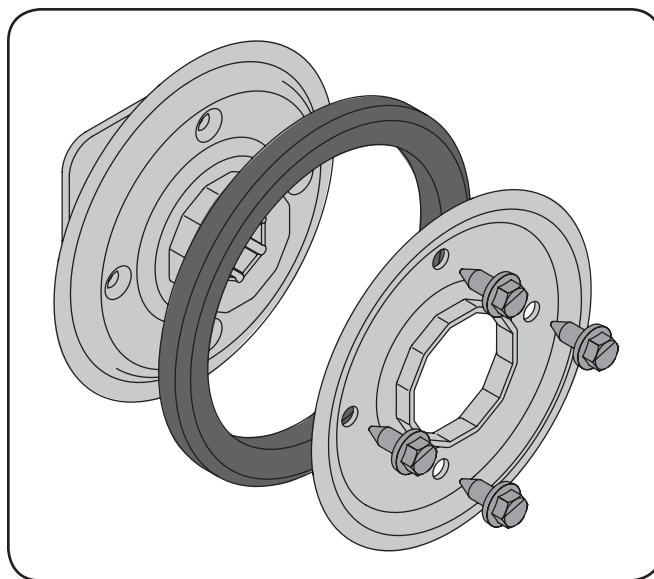

Figure 7-9
- Remove the four screws which secure the friction wheel's side plates together. See Figure 7-9.